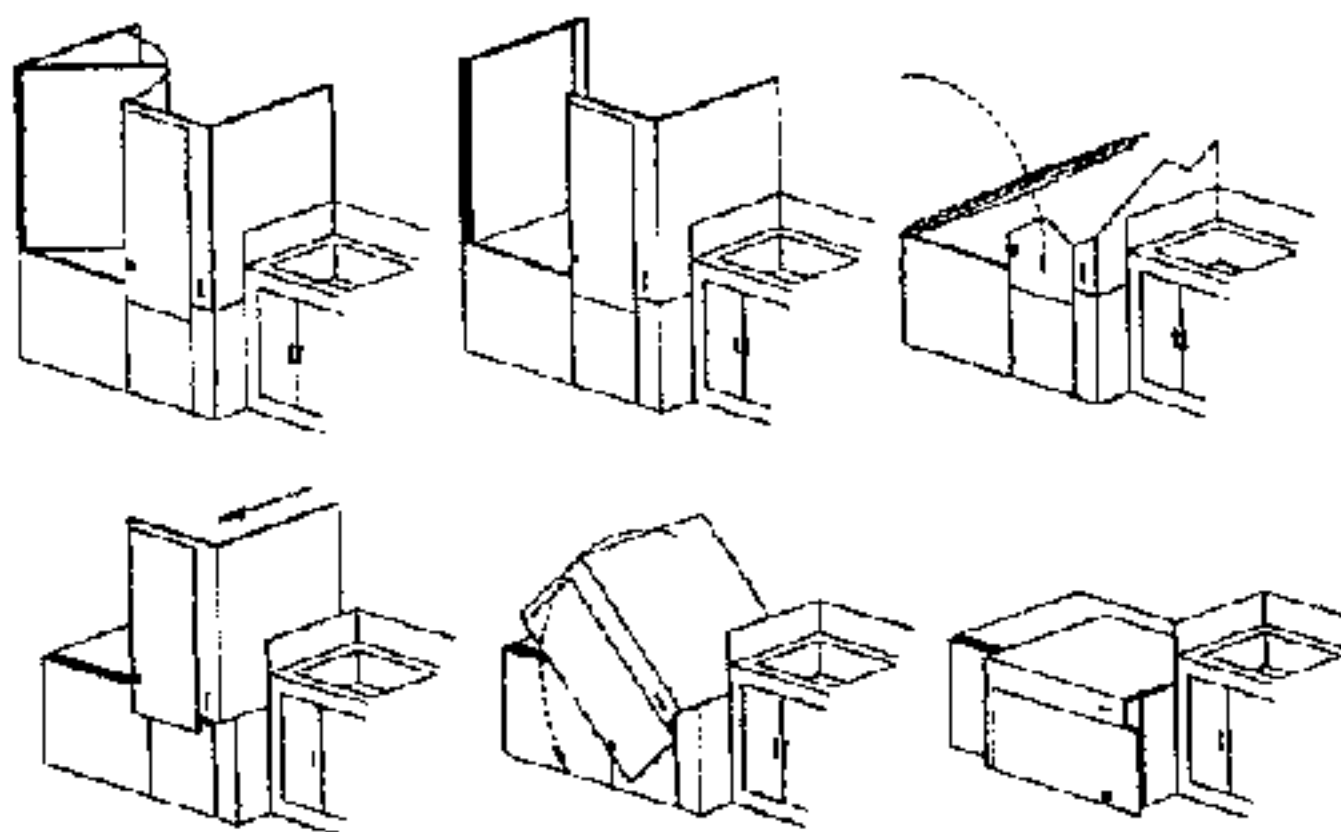

Figure 2. Bathroom Fold Down
7. Raise wardrobe to vertical position and slide it left onto the counter top. Swing front bathroom wall up and slide it back toward wall (about 3-4 inches). Latch walls together and latch the door together. Grasp the rear and side bathroom walls in the middle of the top edges and lift together toward rear of trailer. Swing side bath wall open and latch into place. (See Figure 2.) **IMPORTANT:** To lock tops open and prevent beds from tipping out, bolt rear bed to bathroom wall. Do NOT climb on bed before bed is securely latched in place.
11. Unbolt rear bed from bathroom wall. Unlatch bathroom wall and fold side wall against rear wall. (Illustrated in Figure 2) Grasp the top middle edges of both walls and slowly lower them **together** forward over the bathtub. Be sure to leave the lower door in closed position before lowering the front wall. Unlatch front bathroom latches, slide wall toward you, then slowly lower the wall section over rear half. Slightly lift and slide wardrobe to the right and slowly lower into aisle. Slide back bed into trailer over wardrobe.